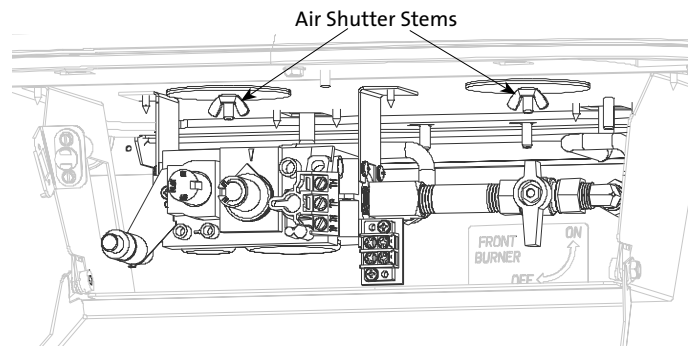

Figure 50.
1. Reach under the stove and loosen the Air Shutter wing nuts. The RIGHT shutter controls the REAR Burner. The LEFT shutter controls the FRONT Burner. See fig. 50. Slide the wing nut stems forward toward yourself to open the air shutters and back to provide less air. Before making any adjustments, start at the factory shutter settings: